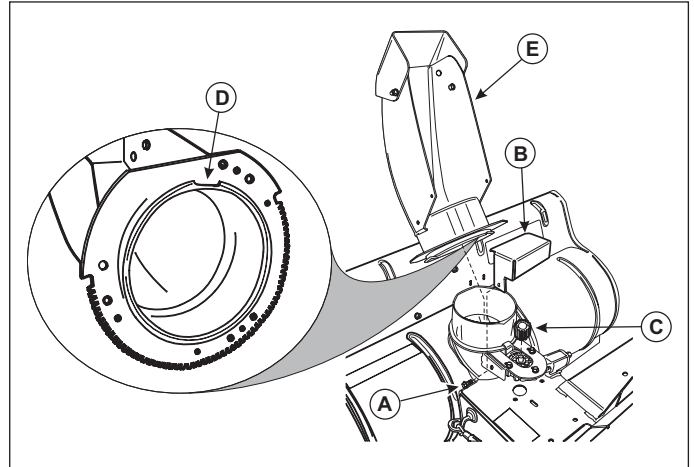
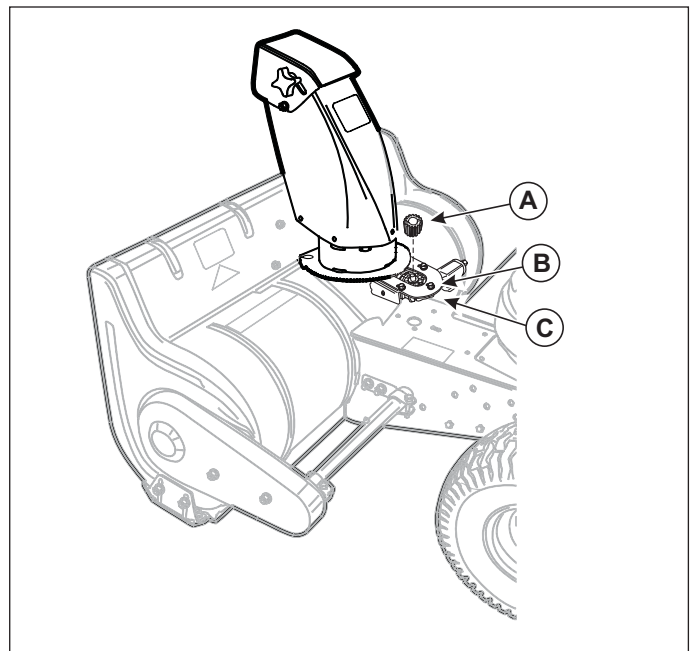

Figure 9. Chute Assembly
Figure 10. Chute Assembly
2. Remove chute rotator drive cover (B, Figure 9) from the snow thrower assembly by removing hex screw (A) and tilting the gearbox cover to disengage tab on opposite side of box.
3. Remove chute rotator gear from shaft (C). Note location of notch (D) in chute ring gear. Align the notch in the chute assembly with the guide tab at the base of the discharge outlet.
4. Slide chute (E) into place and rotate chute 180 degrees to front.
5. Replace chute rotator gear (A, Figure 10) onto shaft and rotate to align chute ring gear and drive gear.
6. Loosen, but do not remove the 3 hex bolts (B) holding chute rotator drive assembly to the snow thrower.
7. Move chute rotator drive assembly (C) toward chute until the chute ring gear meshes with the rotation motor drive gear. Tighten the 3 hex bolts.
8. Replace chute gearbox cover over rotator (B, Figure 9) gear mechanism and secure with the hex bolt.